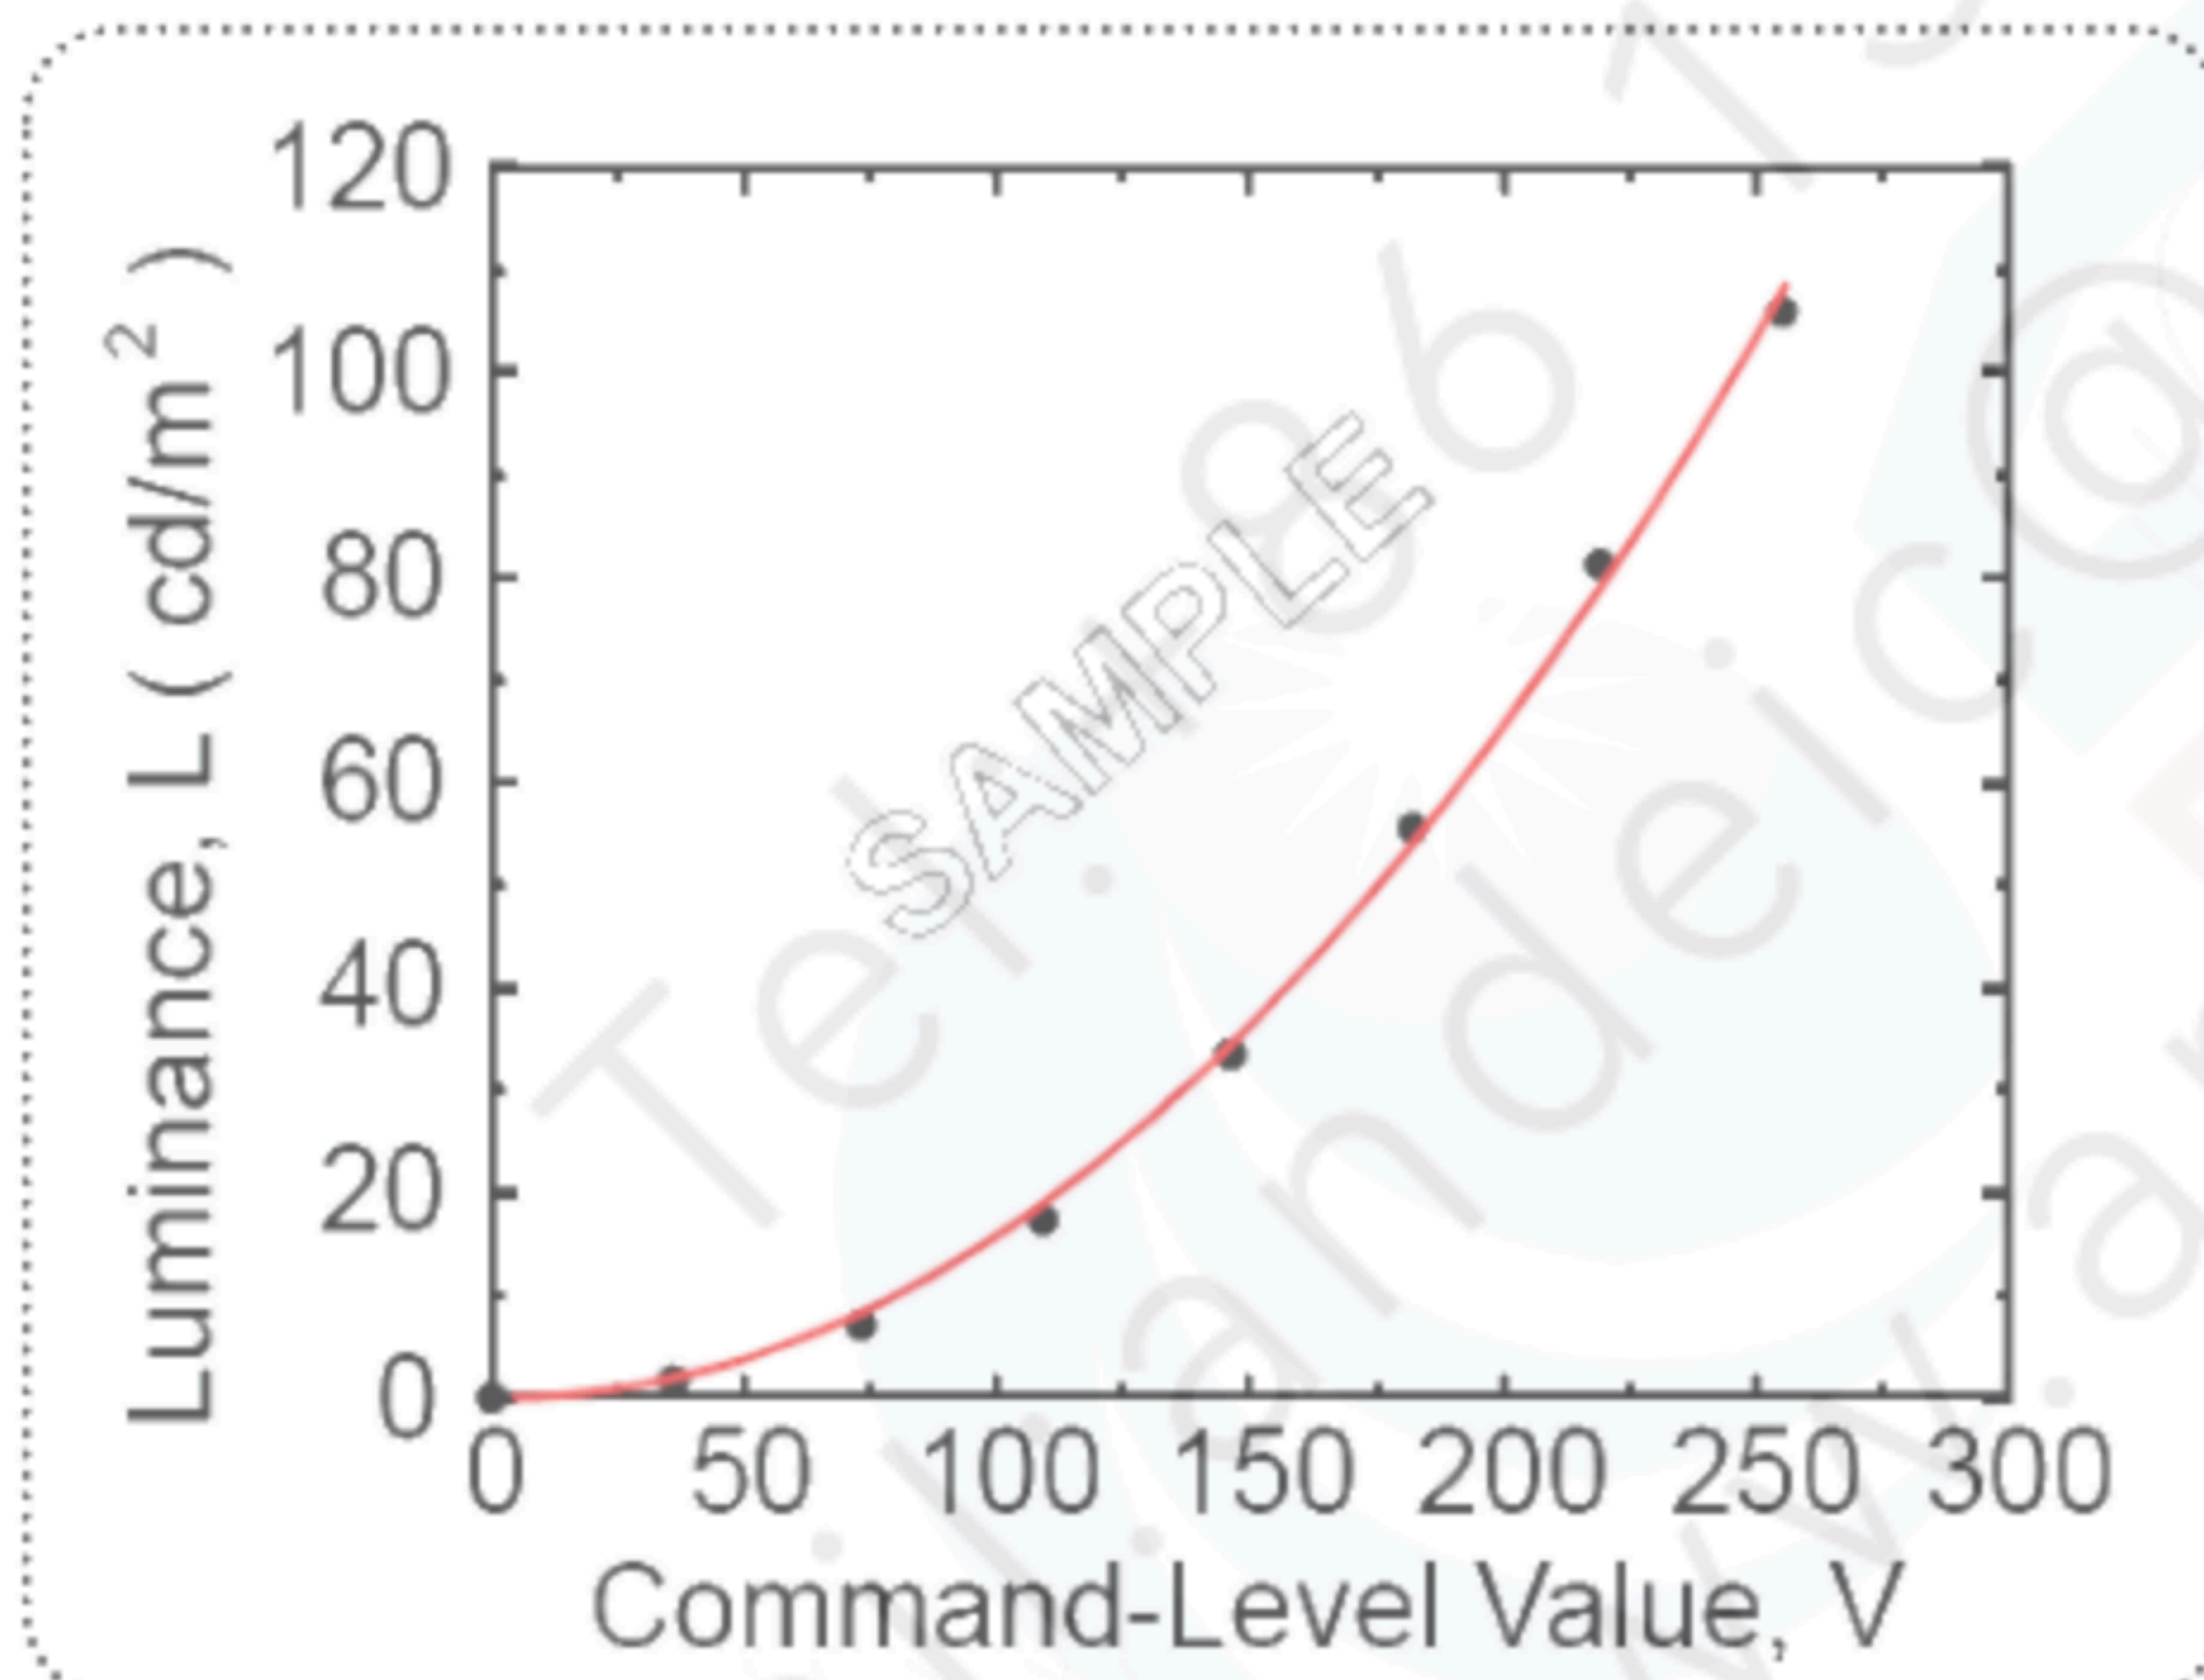
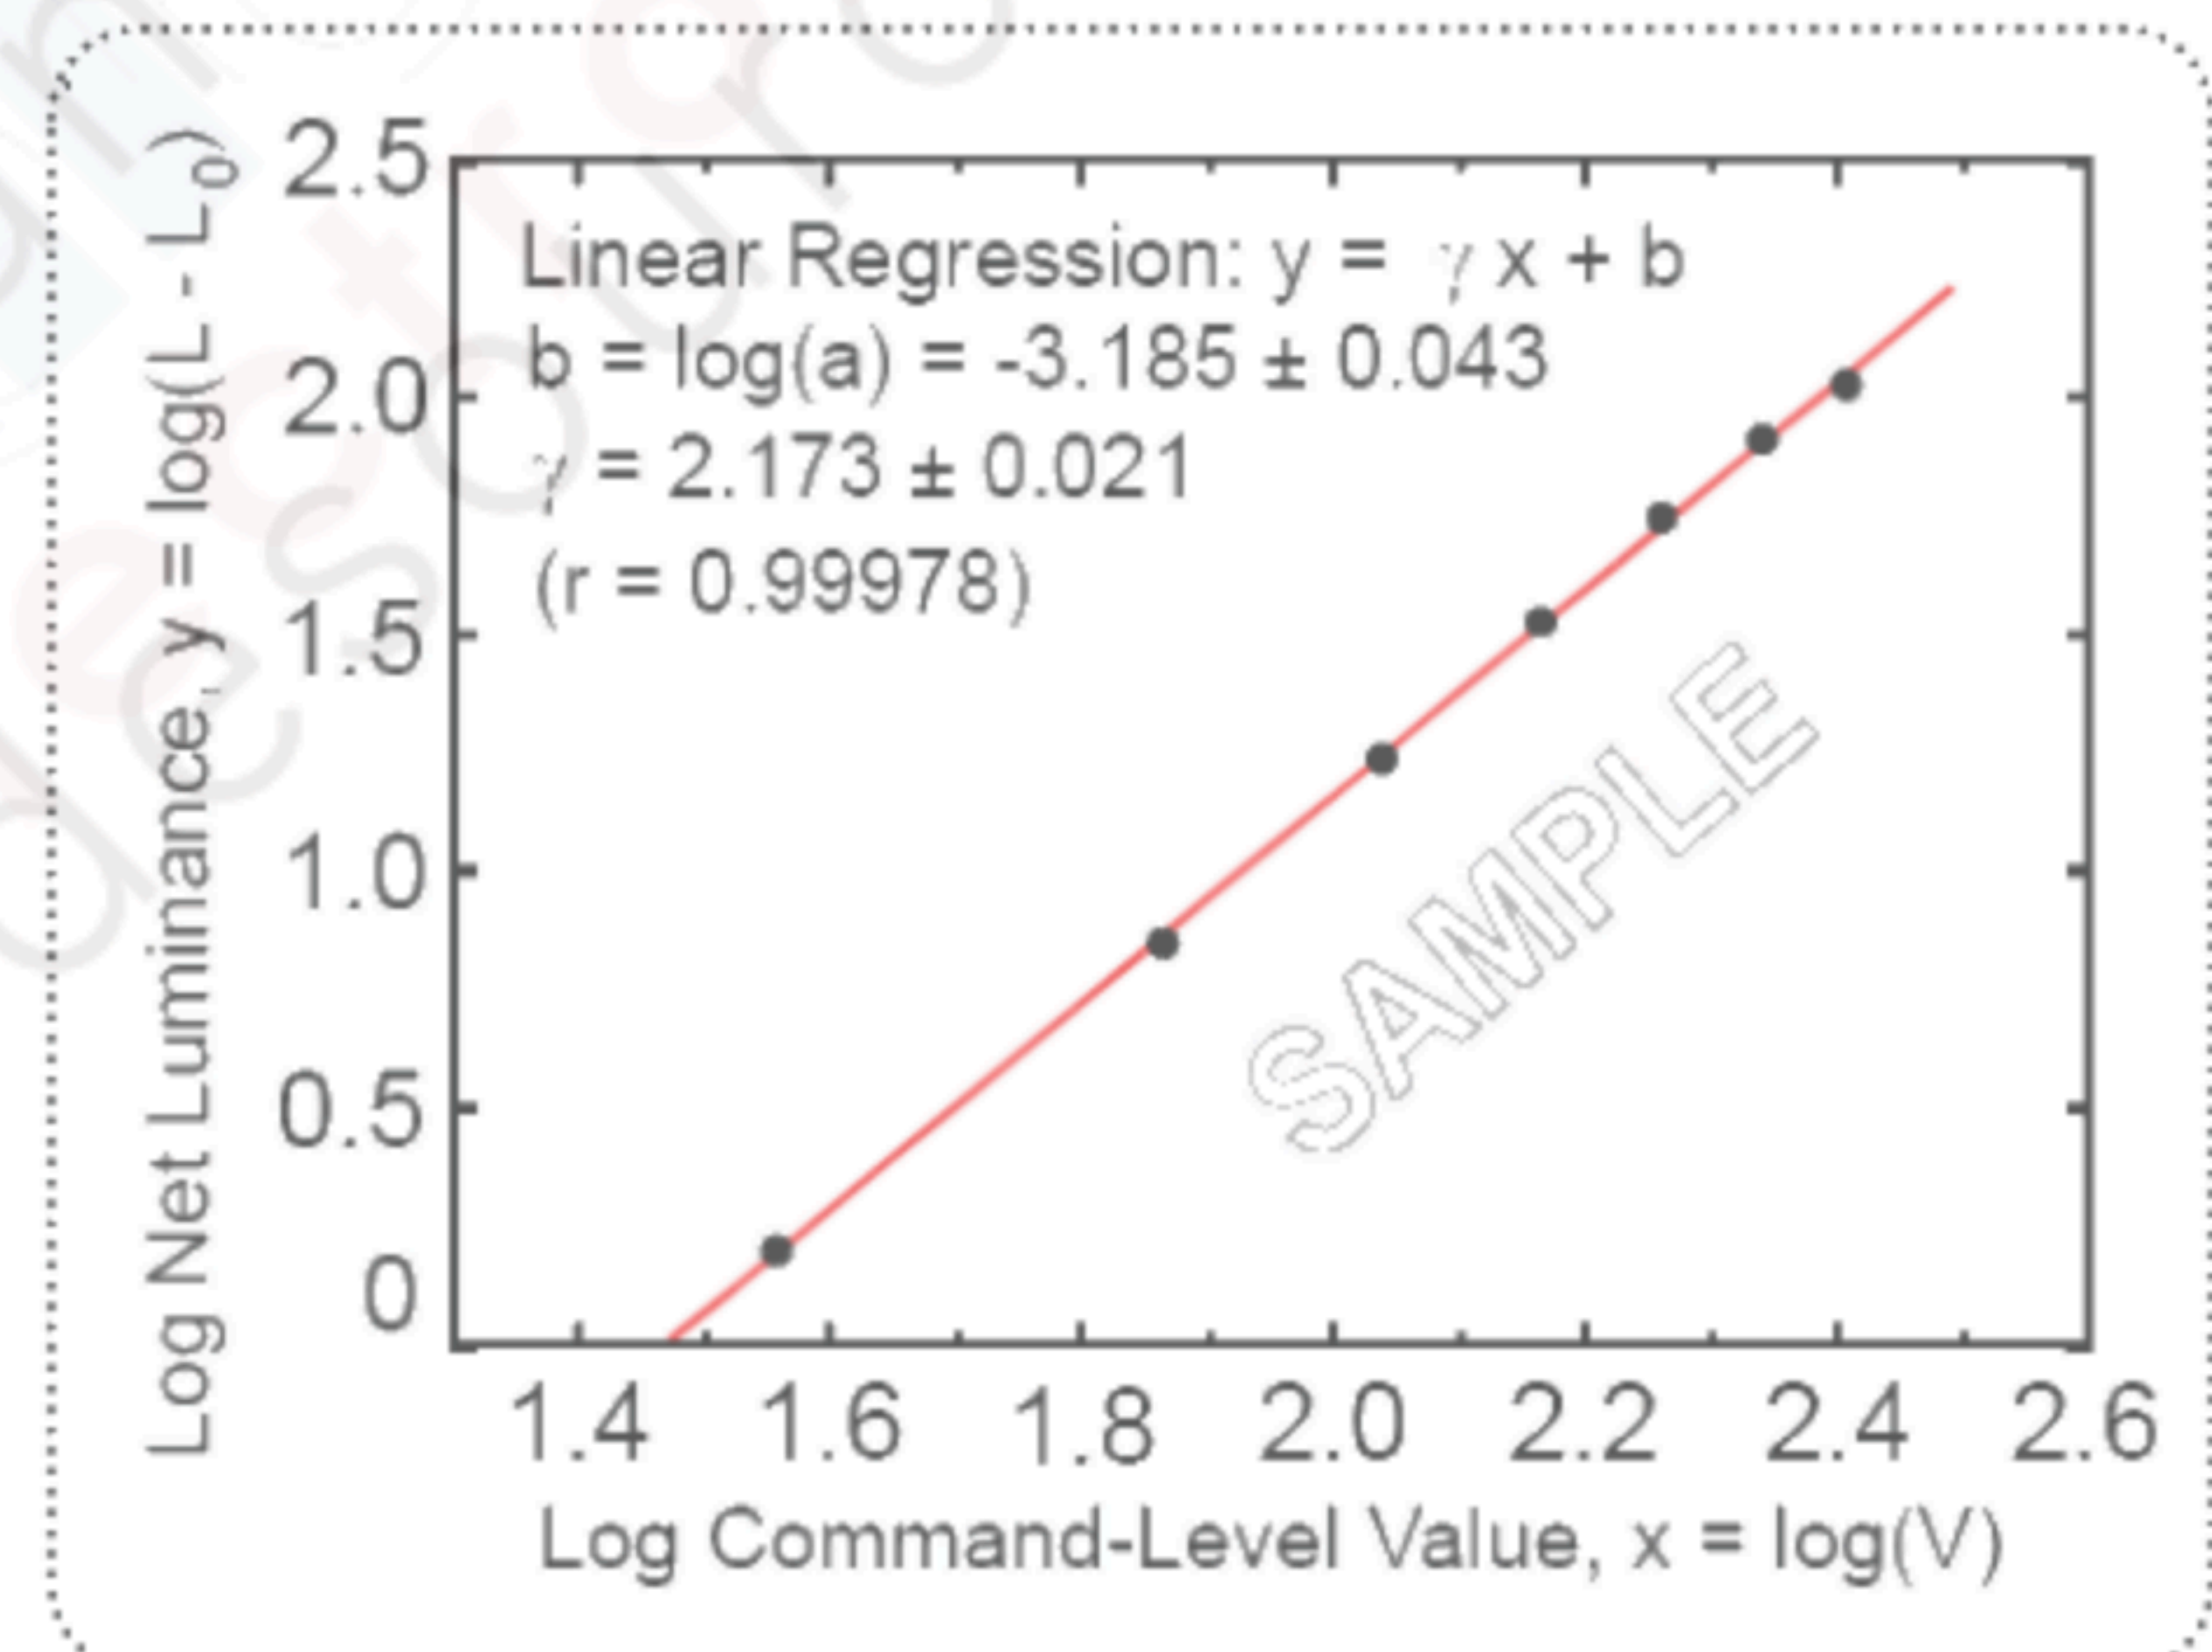

FIG.11 Sample Luminance vs. gray scale (using a 256 bit gray scale)
FIG.12 Sample Log-log plot of luminance vs. gray scale
7. GSR is the rate of gamma shift at up, down, left and right 60 degree viewing angle compare with center gamma. For more information see FIG.11 and FIG.12 **(By EZ Contrast)**
The GAMMA we calculate from the log-log representation (FIG.11)